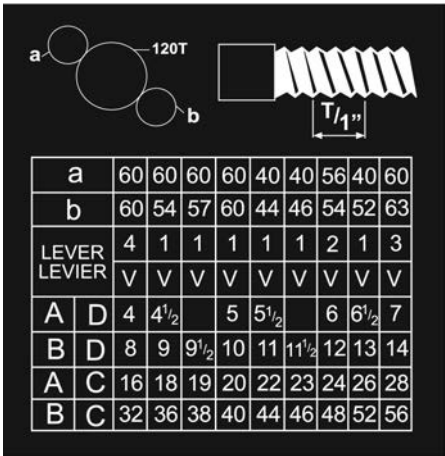

FIGURE 3- Inch Thread Pitch Chart
Make sure the correct gear configuration is set as shown in charts Fig.3, 4, 5A & 5B. Place the feed/thread selector to ANY position and make sure the thread cutting engagement lever (B) Fig.17 is disengaged before operating.